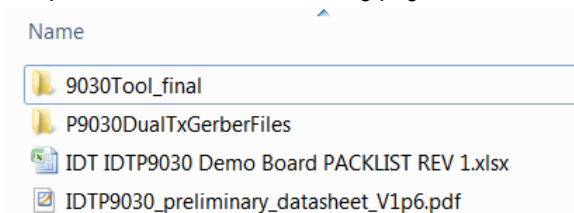

Figure 19. File folder structure on the CDROM.
4. Next, install the Wireless Power Demo Windows GUI software by executing the Setup.exe file in the folder "9036Tool_final" (Figure 19).
To install the GUI, open the IDTP9036-DEMO CD and run the file: setup-1.0.0.11.exe within the 9036Tool_final folder. I.e. the path is 9036Tool_final/setup-1.0.0.11.exe shown in figure 19 or 22. Follow the Setup Wizard instruction shown in Figure 23. This will install the GUI and driver automatically. After the installation process is complete, you may connect the evaluation board to the computer with the USB cable, via the Dongle, and use the software tool. *At this point, a little USB icon should appear at the lower right of the desktop screen. If it does not, then the machine being used should be rebooted. Now connect the JM60 dongle board into the evaluation board and then connect the 12V supply. Now plug the USB cable into the dongle board, and plug the USB cable into the PC.*